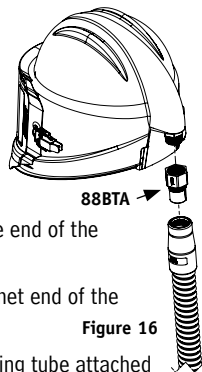

Figure 16
- 3) Align the female end of the adapter with breathing tube attached over the threaded breathing tube connection on the back of the GVX helmet and hand tighten (Fig 16).